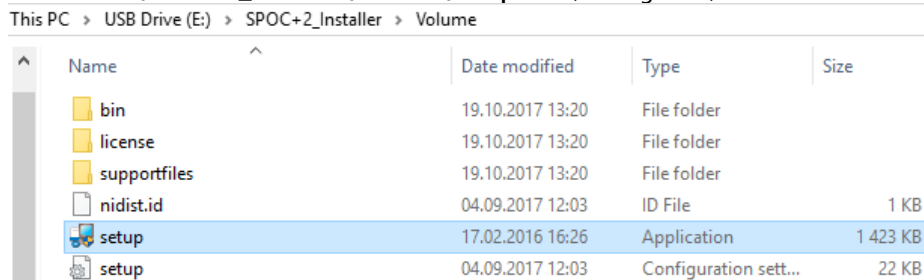

Figure 6 – SPOC™+2 - setup.exe
| Figure 6 – SPOC TM +2 - setup.exe .....                              | 7  |
- **USB-Drive:\SPOC+2\_Installer\Volume\setup.exe** (see Figure 6)